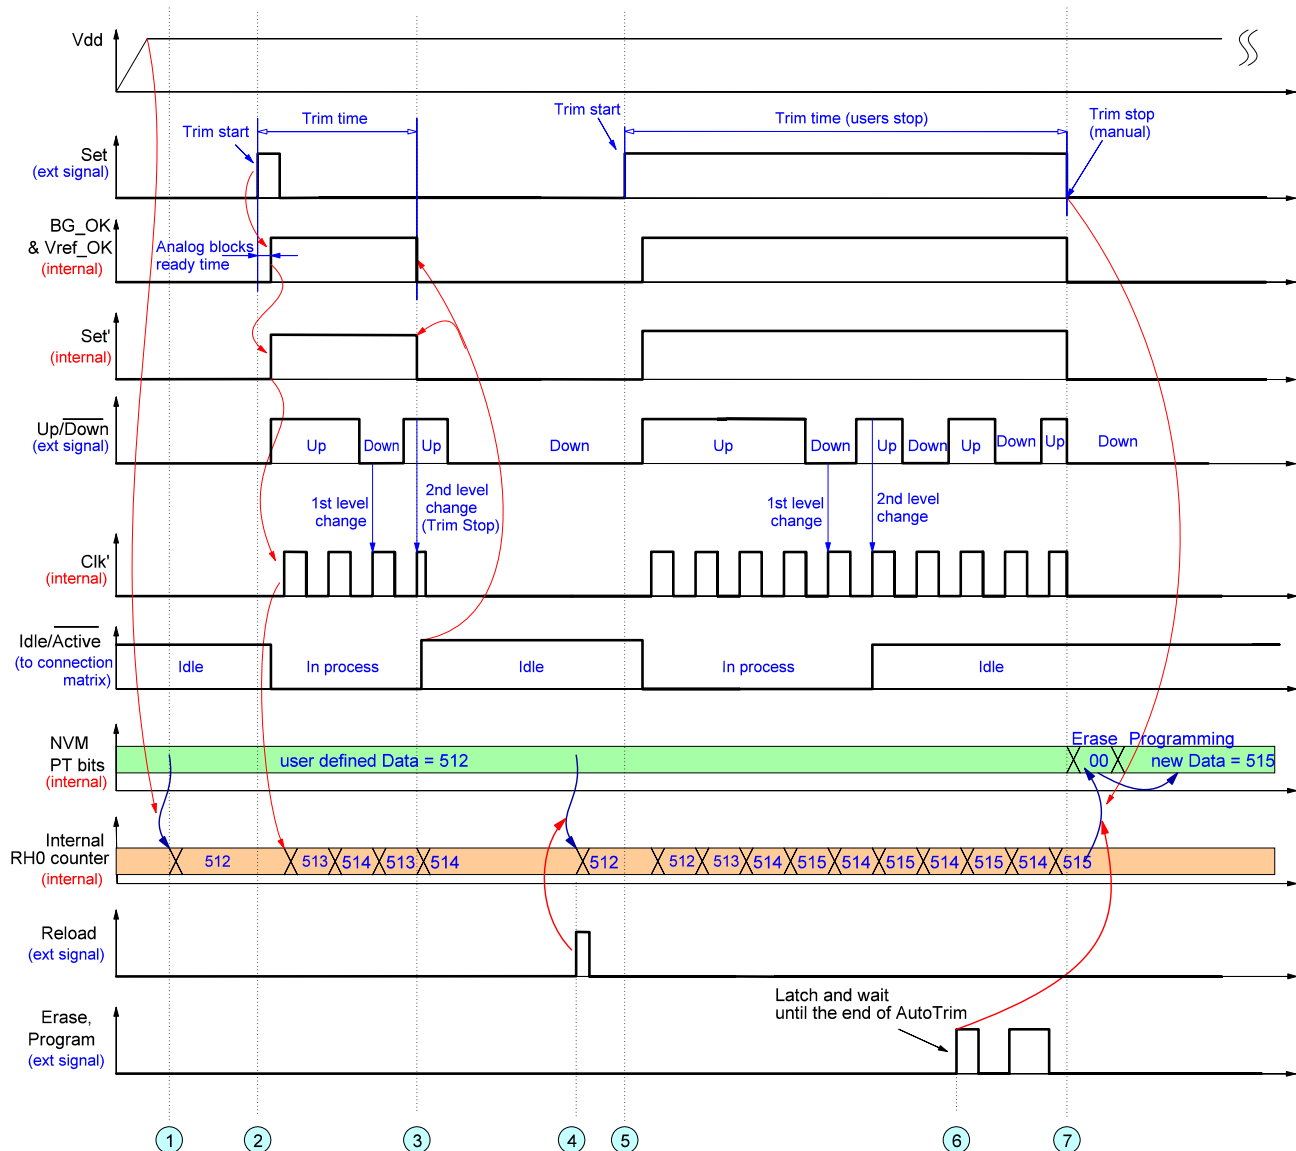
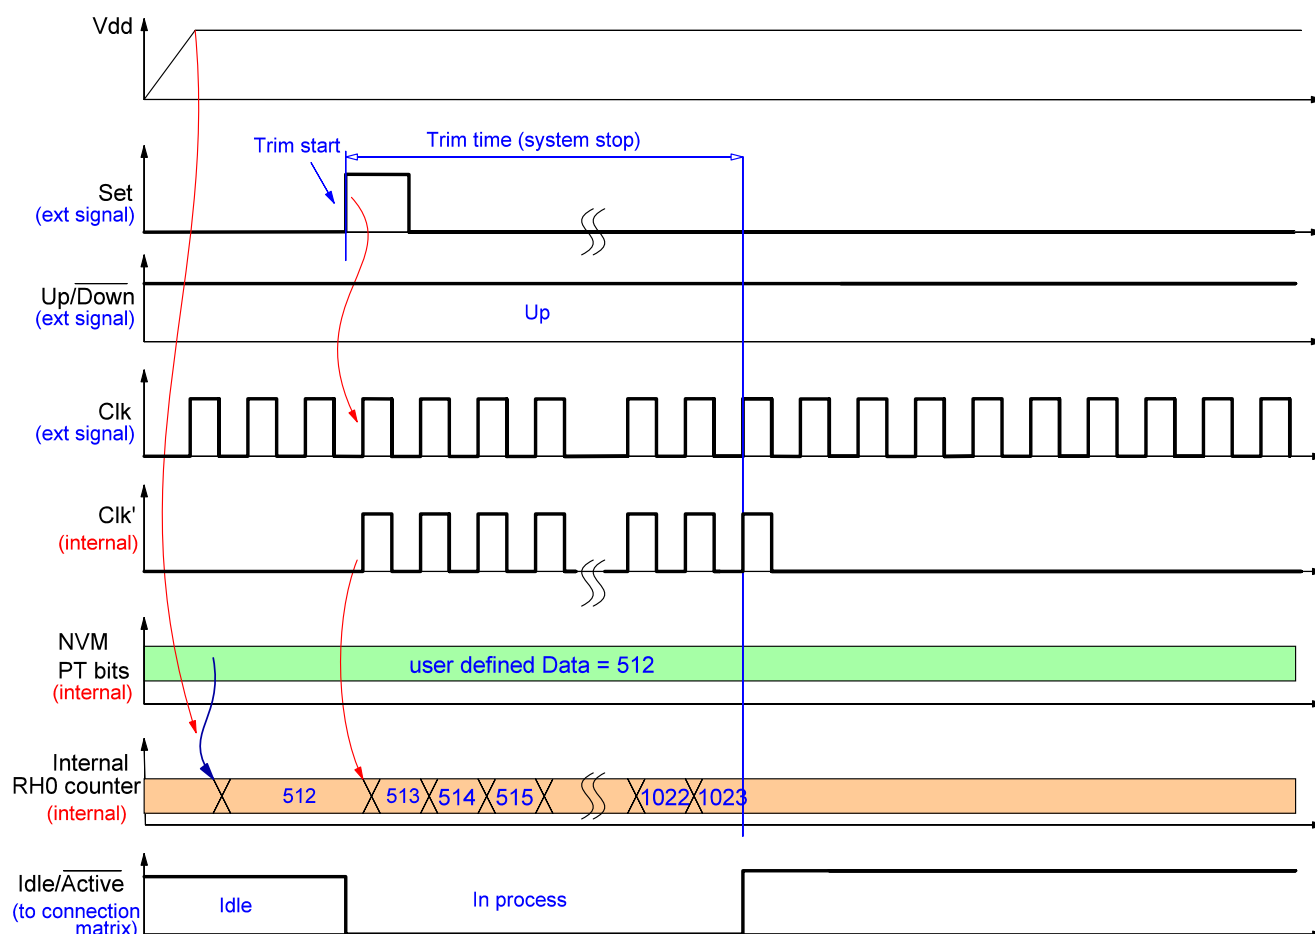
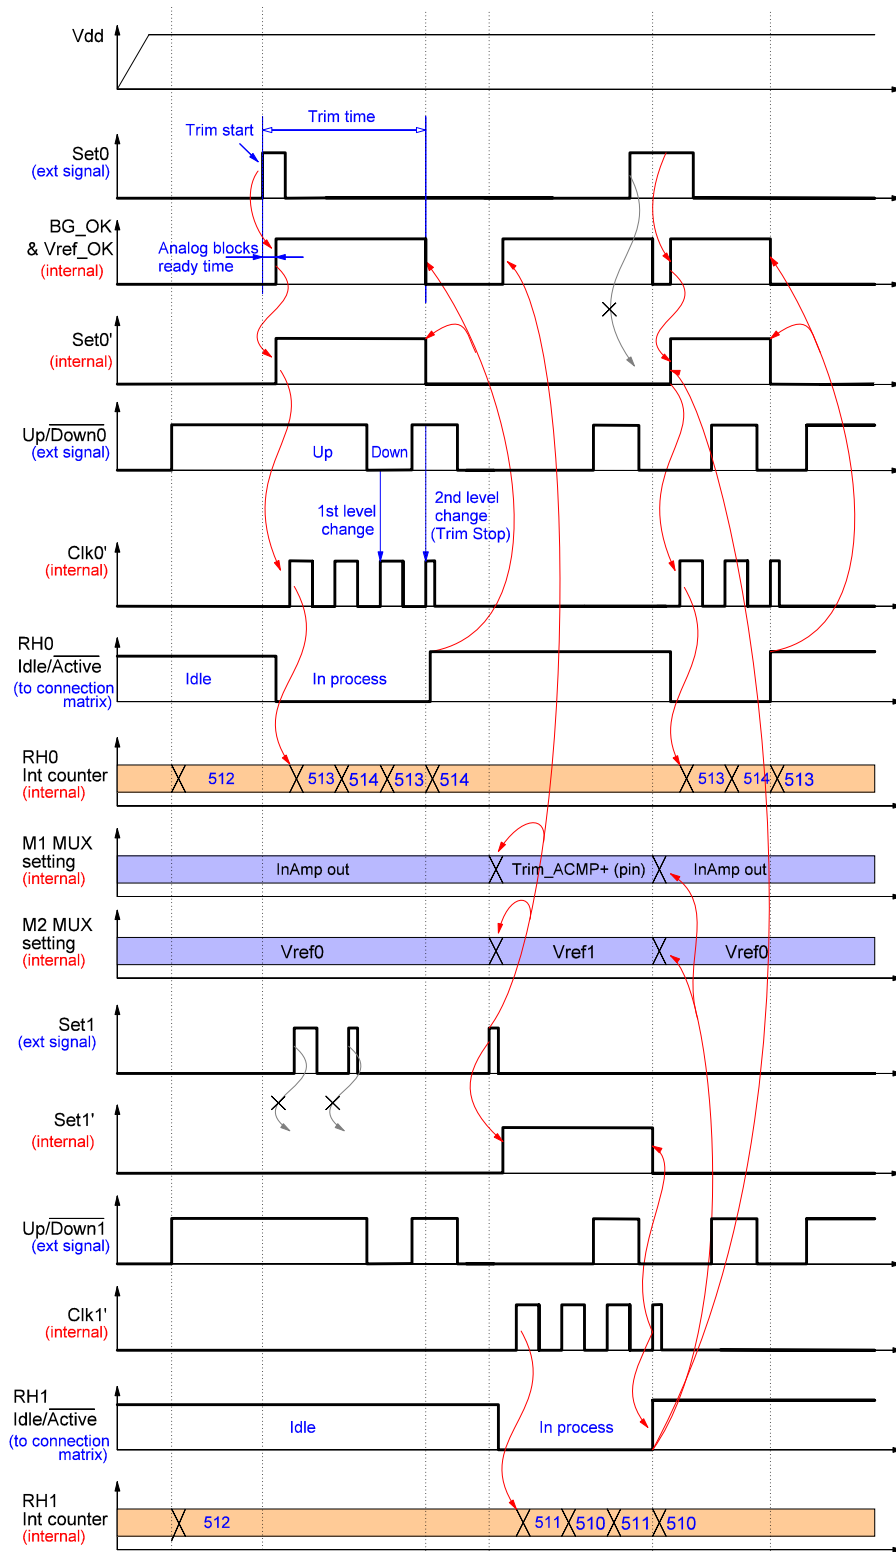

Figure 175: Example of Auto-Trim Process for a Single Rheostat
Figure 176: Example of Auto-Trim Process with External Clock Signal
Figure 177: Example of Auto-Trim Process for Two Rheostats
- 1) 2nd time change on Up/Down input at the moment of rising edge on Clock input (see Figure 175).
- 3) the value of rheostat reaches its minimum (0).Stop conditions result in a change of the Idle/Active signal, which resets the internal Auto-Trim logic.
The detailed flow of Auto-Trim process is shown in Figure 175, Figure 176, Figure 177.
The key events of the Auto-Trim process are the following (see Figure 175):
If the Set input signal is shorter than the trim time, the Auto-Trim process stops automatically after a stop condition occurs (event 3, Figure 175). However, if a stop condition comes and High logic level holds on the Set input, the rheostat value will be switched near the set point until a Low level on the Set input occurs (event 7, Figure 175). Note that the Idle/Active signal changes its level to High (Auto-Trim is done) even if the user keeps a High logic level at the Set input.
Figure 176 shows a similar Auto-Trim example. The only difference is that the user defined clock source as “External clock” from connection matrix. The clock pulses are present at the Clock input all the time, but have effect (rheostat value changes) during Trim time only. The stop condition for this case is the following: PT block reaches boundary value of 1023 and the logic level at change Set input is Low.
Figure 177 shows Auto-Trim process flow for two rheostats.